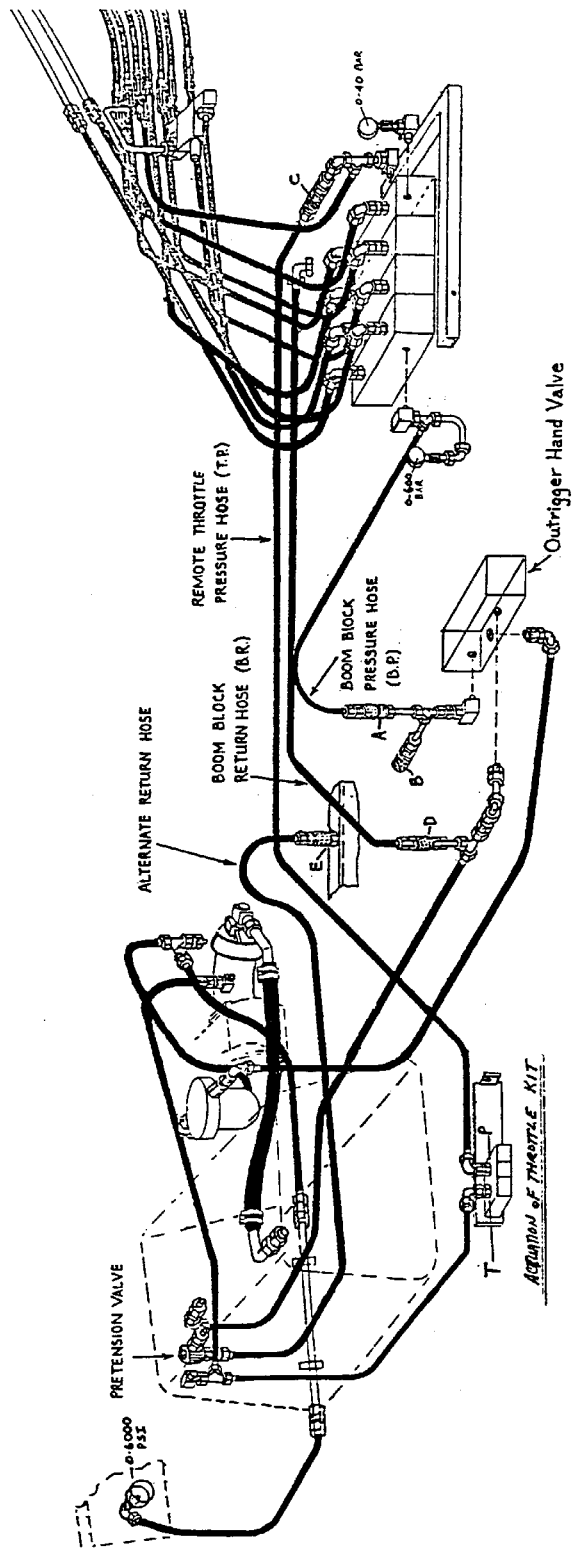

FIGURE 1
- Step 6. Remove remote throttle pressure hose (T.P.) at the quick disconnect fitting (Fig. 1, Position "C")
- Step 7. Connect T.P. hose to quick disconnect fitting (Fig. 1, Position "B")